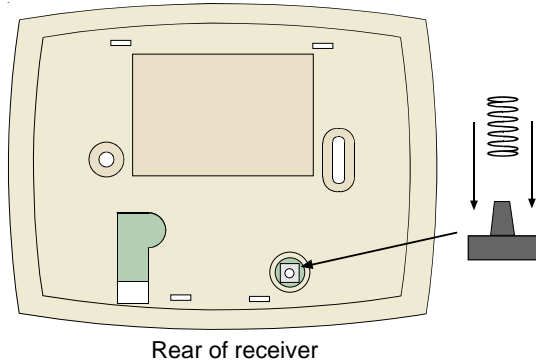

Figure 4 - Installing the Tamper Spring
- Place the Spring from the hardware packet over the shaft of the Tamper Switch located on the back of the Receiver (see Figure 4).